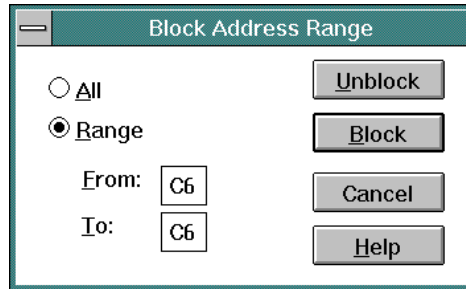

Figure 142. Block Address Range Dialog Box
- Set the attribute for a range of port addresses from the *Block Address Range* dialog box (Figure 142). Open the dialog box by selecting the *Block Range* option from the *Edit* menu or simultaneously pressing the **Ctrl** and **R** keys. Click the *Range* radio button, enter *From* and *To* port address values, and click the *Block* button.